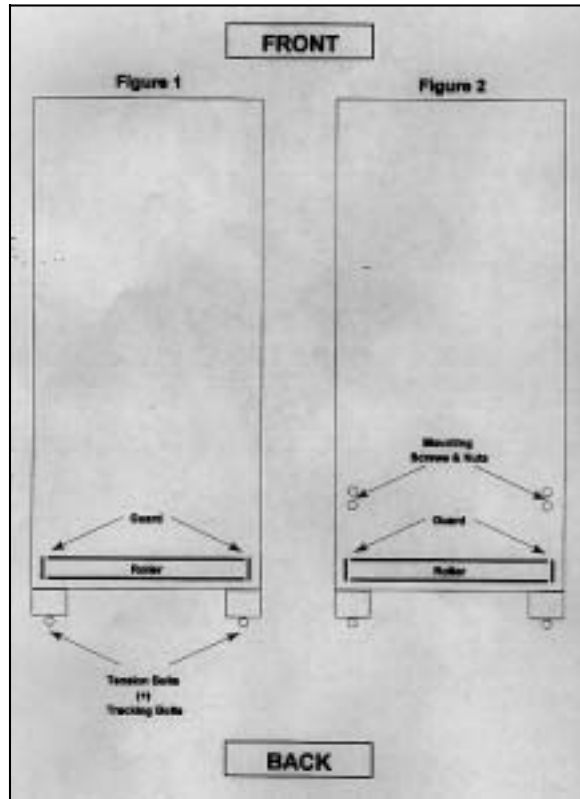

Figure 2-2. Treadmill calibration
- See Figure 2-2. Check the position of the rear roller guards each time you readjust the belt tracking or belt tension. The roller guards are located at the rear of the treadmill between the rear roller and the deck.